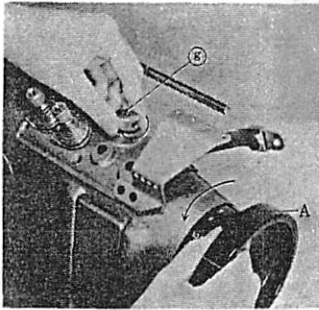

Fig. 25
Numerical numbers on the stitch indicator show the number of stitch per inch. To change length of stitch, turning parts (G, Fig. 25) toward right, at the same time turn balance wheel over toward you until plunger enters a notch in adjustable eccentric on arm shaft. Then, turn the (G) 1/4 turn.